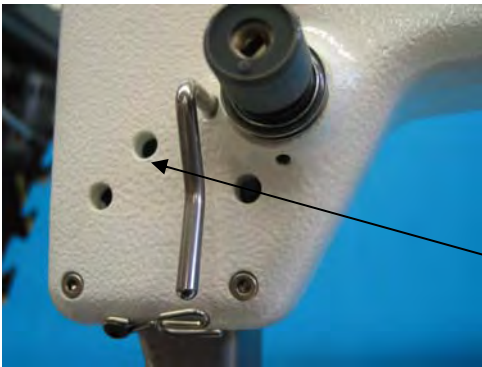

Figure 7.4
- Loosen screw C through the machine front cover **(3mm allen driver)** Figure 7.4
- Tighten screws C. Figure 7.4 – push down lightly on the tool blade towards table while tightening.